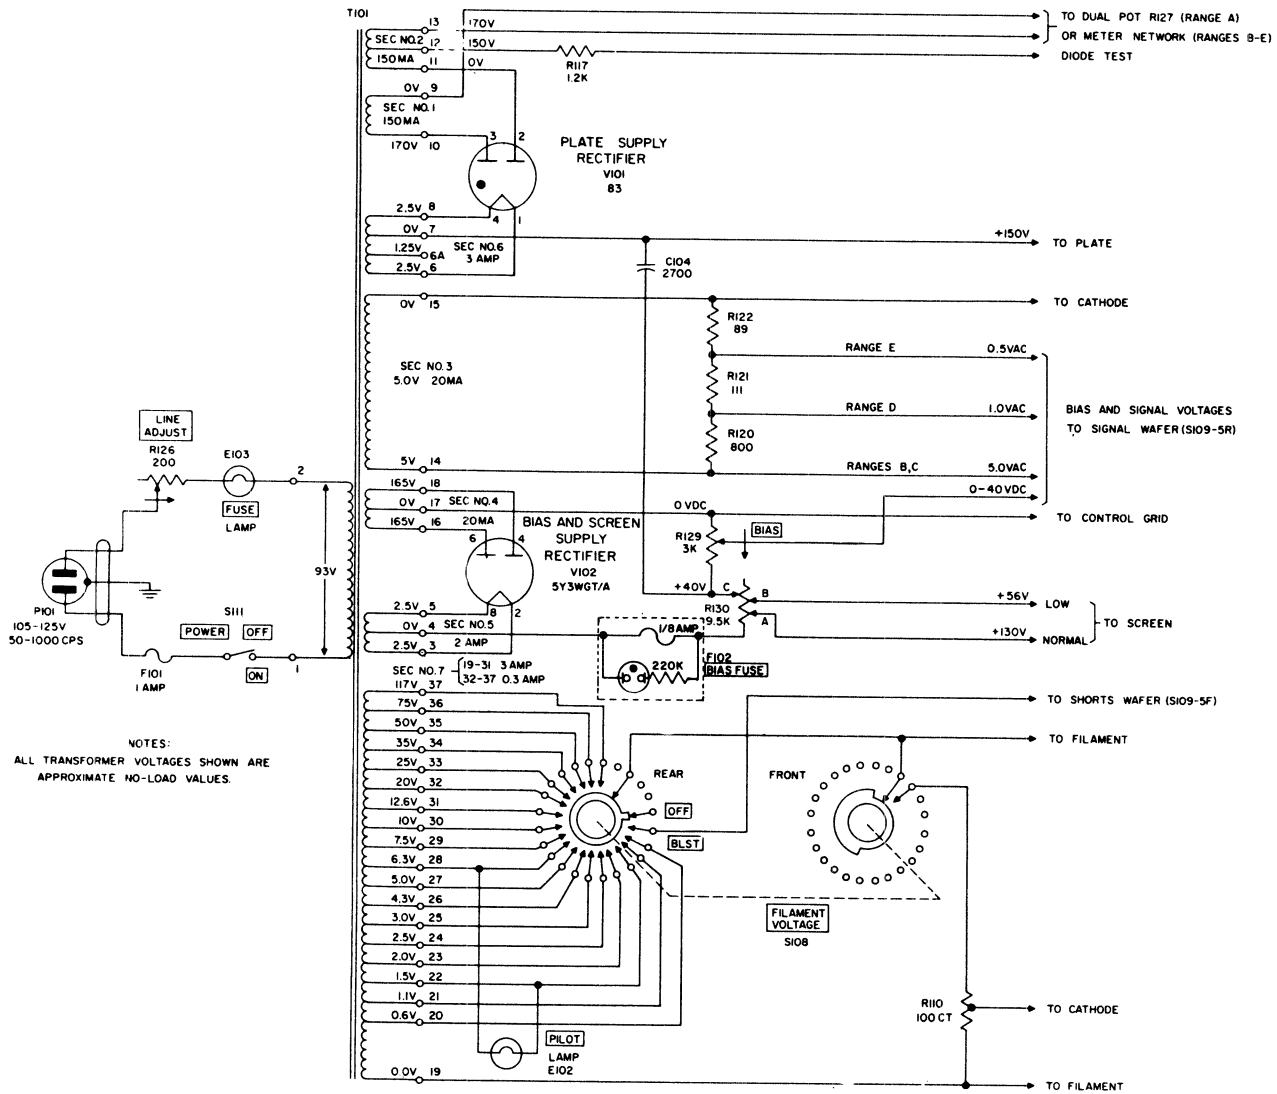

Figure 4-4. Simplified Power Supply Circuit
(See figure 4-4.)
(See figures 4-4 and 4-10).
*a.* Refer to figure 4-4. For mutual conductance tests on amplifier-type tubes, full-wave rectifier tube V101 supplies d-c plate voltage, full-wave rectifier tube V102 supplies d-c screen and bias voltages, transformer T101 secondary No. 3 supplies a-c signal voltage, and secondary No. 7 supplies filament voltages. FUNCTION SWITCH S109 must be set at RANGES B, C, D, or E, and red MUT. COND. pushbutton P3 must be pressed.
(1) At RANGES B, a 5-volt, a-c signal is applied to the tube under test, the entire shunt network except for range C shunt resistor R114 is connected, and the meter range is 0 to 3,000 micromhos.
(2) At RANGES C, the same 6-volt, a-c signal is applied, but range C shunt resistor R114 is inserted, the resistance of the meter shunt network is halved, and the scale is therefore doubled, or 0 to 6,000 micromhos.
(3) At RANGES D, resistor R114 is disconnected, and signal voltage applied from the junction of resistors R120 and R121 (see figure 4-4) provides 20% (200/1000) of the original value, or 1 vac. Reducing the signal by a factor of five increases the original B range of the meter by the same factor to 5 x 3,000, or 15,000 micromhos.
(4) At RANGES E, resistor R121 is shorted out, and signal voltage tapped from the junction of resistors R120 and R122 is approximately 10% (89/889) of the original value, or 0.5 vac. Accordingly, meter range B is increased, by a factor of 10 x 3,000, or 30,000 micromhos.